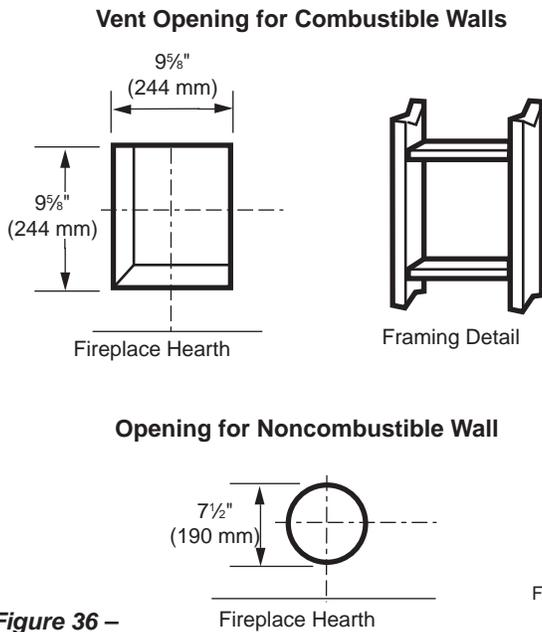

Figure 36 –
Locate vent opening on the wall. It may be necessary to first position the fireplace and measure to obtain hole location. Depending on whether the wall is combustible or noncombustible, cut opening to size. *Figure 36* (For combustible walls first frame in opening.)
Combustible Walls: Cut a 9 5/8" H x 9 5/8" W (244 x 244 mm) hole through the exterior wall and frame as shown. *Figure 36*
1. Establish vent hole through the wall. Page 22, Figure 36